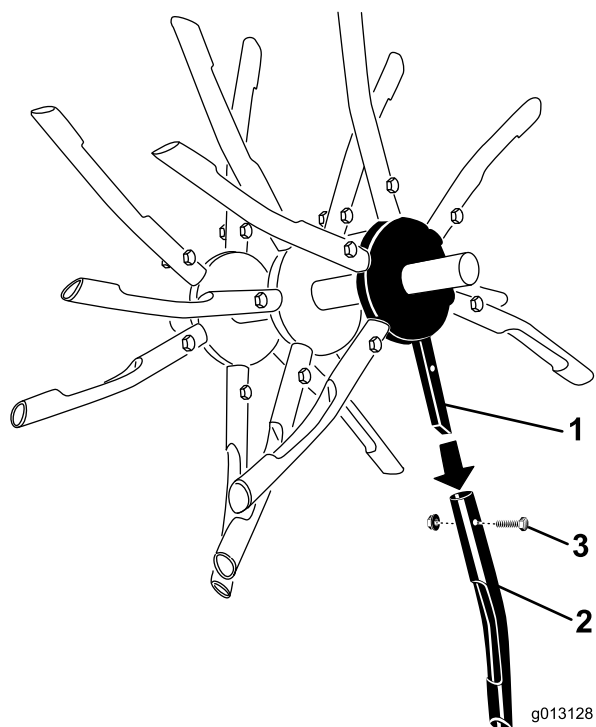

Figure 37
4. If any tines are damaged or broken, remove the nut and bolt securing the tine to the tine assembly (Figure 37).